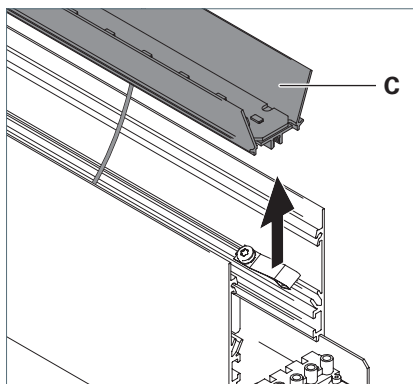

Fig. 14: Taking out the reflector.
- Remove the reflector **C** from the luminaire and place it beside the luminaire, see Fig. 14.